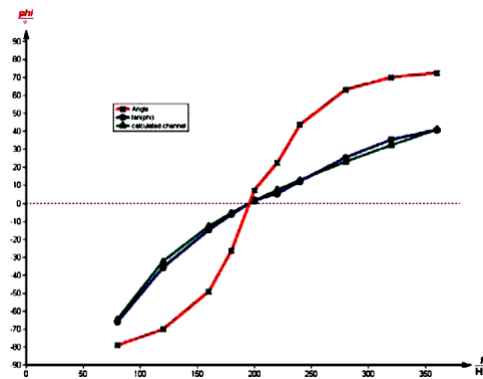

Figure 2.44
- 13) Calculate  $\omega$  and  $\tan \omega$  for the used frequencies and plot them over the frequency using “Measurement” → “Enter data manually...” (Figure 2.44).
- 14) You can use “Measurement” → “Function generator...” to compare calculated theoretical values with the measured values. Figure 2.44 shows the equation for coil with  $L = 0.3 \text{ mH}$  and d.c. resistance  $R_L = 150 \Omega$  in series with a  $2.2 \mu\text{F}$  capacitor with no additional damping resistor.